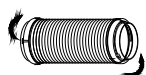
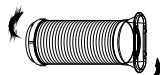

Fig.16a
Fig.16b
1. Install the adaptor B and adaptor I onto the exhaust hose as shown in Fig.16a or Fig.16b. Refer to the previous pages for window kit installation.